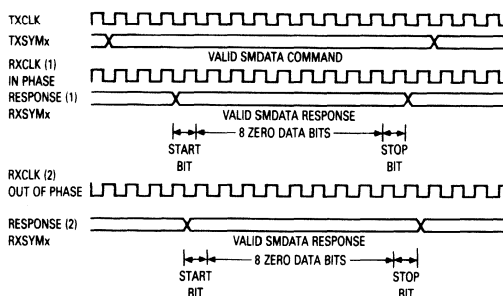

Figure 8-2. SMDATA Command Response Time
3. The SMDATA command response timing is shown in Figure 8-2. The NAK response to the SMDATA command is available on the RXYMx pins in 2.5 or 3 clock periods depending on the relative phases of the TXCLK and RXCLK signals. When NAK becomes valid, RXYM0 is low creating a start bit